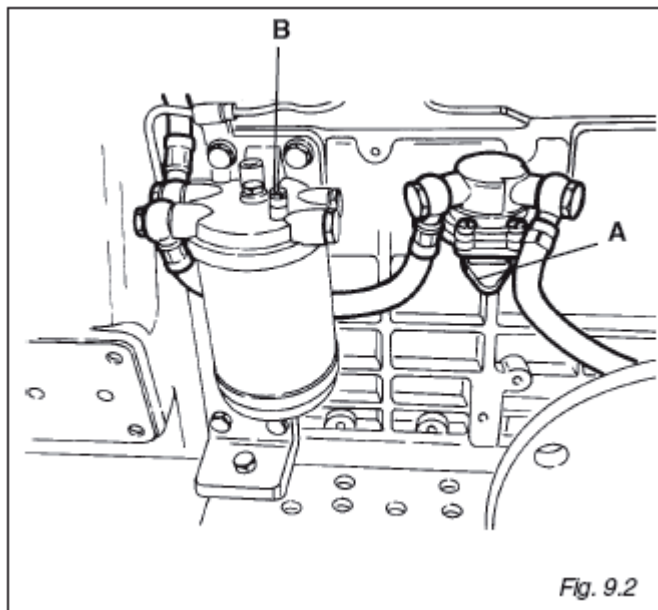

Fig. 9.2
9.2 BLEEDING THE FUEL CIRCUIT (FIG. 9.2 - 9.3)